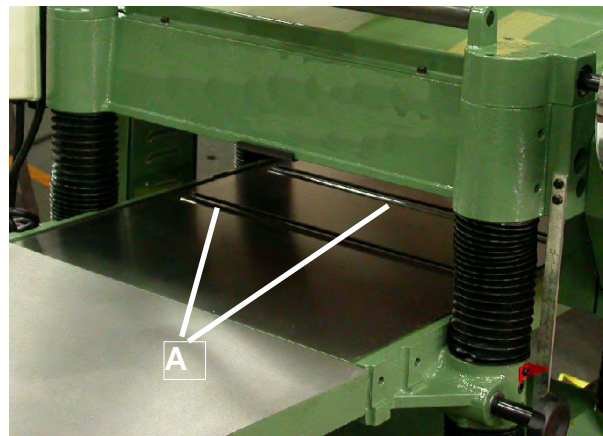

Fig 13
Your planer is supplied with two table rollers (A) Fig. 13, which aid in feeding the stock by reducing friction and turn as the stock is fed through the planer. It is not possible to give exact dimensions on the proper height setting of the table rollers because each type of wood behaves differently.